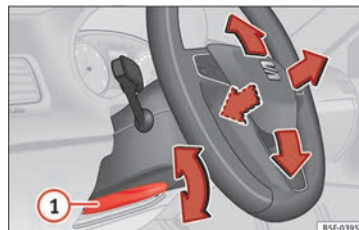

Fig. 19 Lever in the lower left side of the steering column.
• Adjusting the position of the steering wheel: Pull the » » **Fig. 19** ① lever down, move the steering wheel to the desired position and lift the lever back up until it locks.